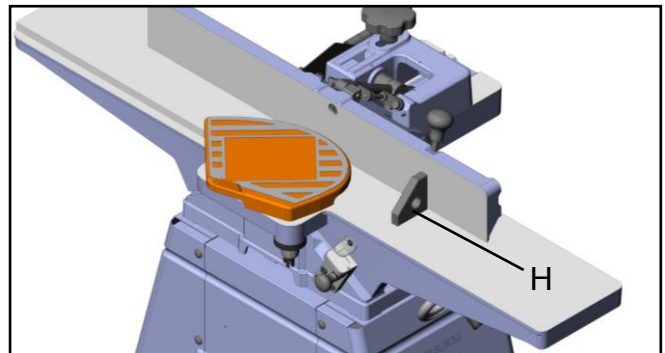

Fig. 10
2. Move the fence by releasing lock knob (D) and pushing the fence assembly until it overlaps the tables.
3. Tighten lock knob (D).
4. Adjust the fence to a 90° angle by releasing lock handle (C).
**Note:** The stop bolt (A) should be resting against the stop plate (B).
5. Place an angle measuring device (H) Fig.10 on the table colsed to fence surface and pulling up the fence handle (G) to confirm a 90° setting then tightening the lock handle (C).
6. Loosen the hex nut (E) until the stop bolt head (A) touch stop block (F) surface.
7. Tighten the hex nut (E) to retain the setting.